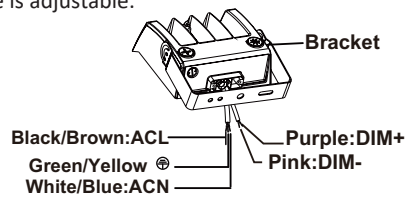

figure 4
Step 2: Finish the wire connection according to the right mode of connection (pay attention to positive wire, negative wire, and ground wire).(Figure 4)